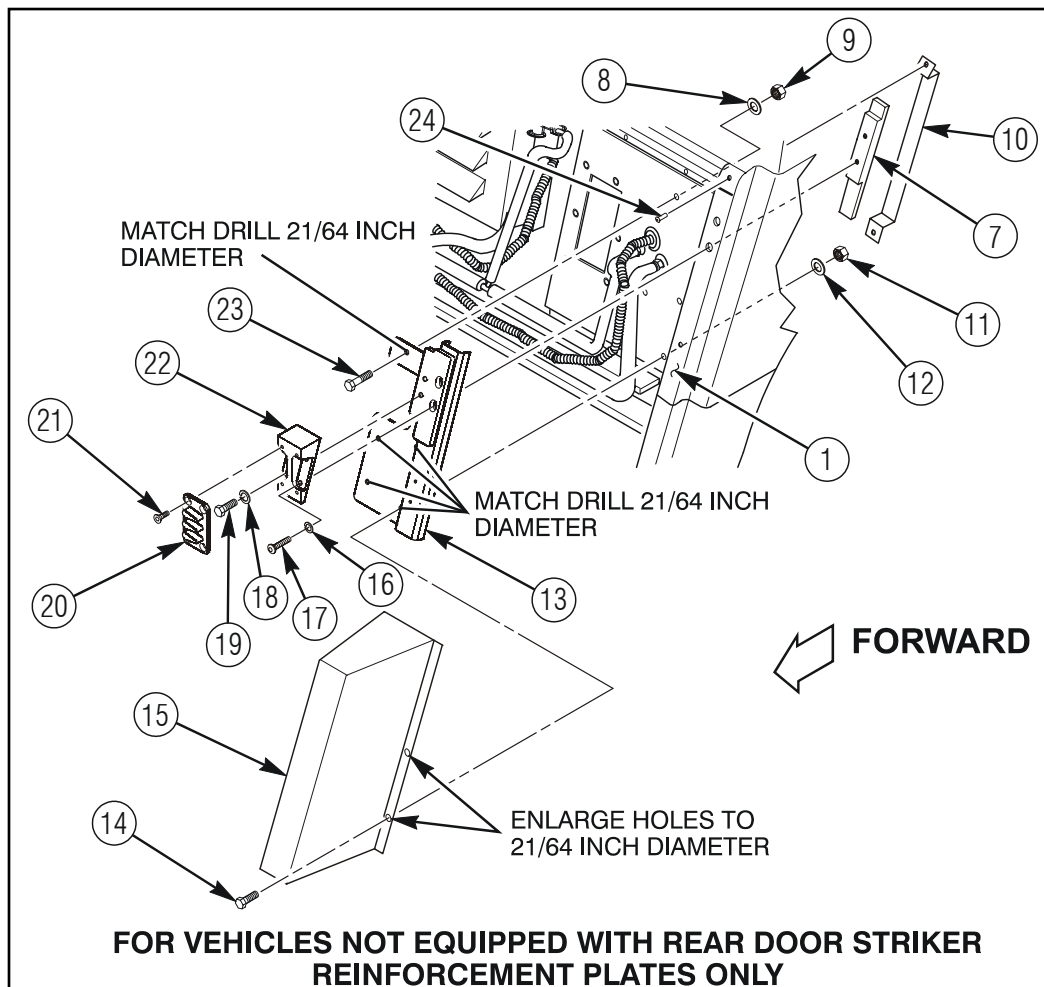

Figure 25c.
- p. Install four 4397000-034 capscrews (14), 4397005-013 washers (12), 4397064-003 locknuts (11), and rear HVAC lines cover (15) as shown in figure 25c. Tighten capscrews (14 and 23) to 21 lb-ft (28.5 N·m).
- q. Apply 8030-01-025-1692 sealing compound to threads of four 4397031-089 flat socket head screws (21). Refer to figure 25c.
- r. Install 6437133-01M1 male door guide (20) with four 4397031-089 flat socket head screws (21) as shown in figure 25c. Tighten screws (21) to 10 lb-ft (13.6 N·m).
- s. Reinstall closed-cell foam rubber strip (6) along back edge of rear door opening. Refer to figure 25c.